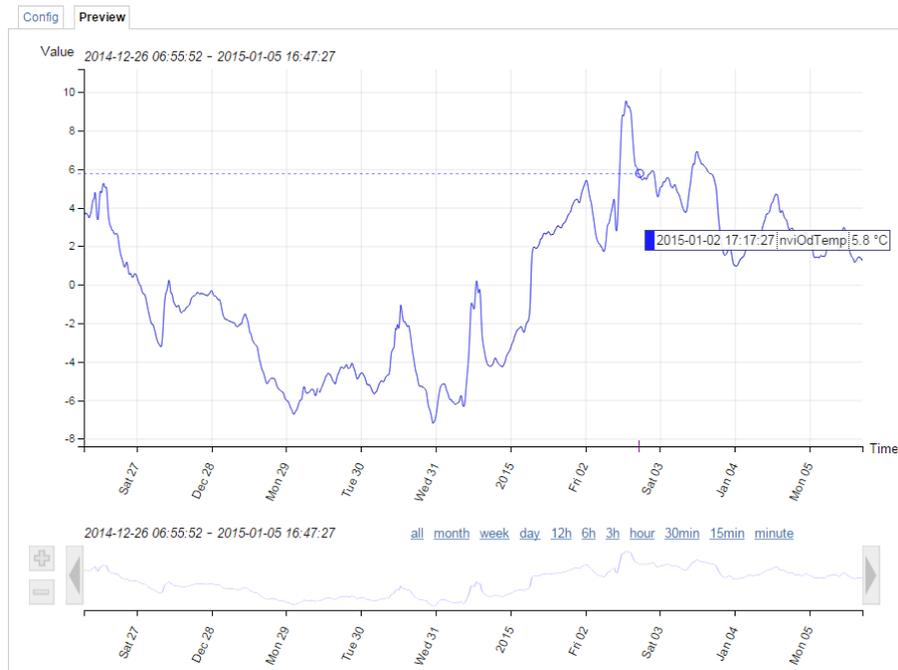

Figure 6: New trend chart on the Web UI
- The trend log configuration on the Web UI now also provides a preview tab, which shows a chart of the trend log data. The trend chart allows zoom, scrolling and hiding specific data curves, as shown in Figure 6.